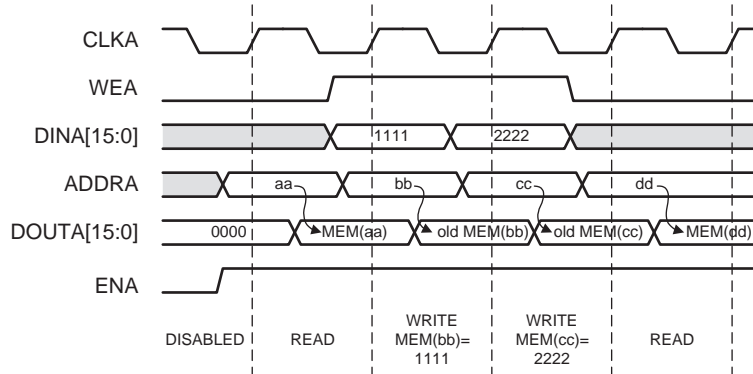

Figure 3-10: Read First Mode Example
- Read First Mode:** In READ_FIRST mode, data previously stored at the Write address appears on the data output, while the input data is being stored in memory. This Read-before-Write behavior is illustrated in Figure 3-10.